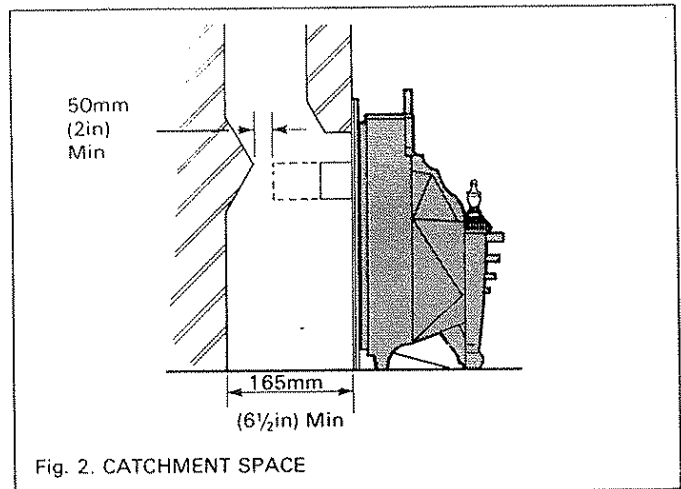

Fig. 2. CATCHMENT SPACE
- (g) The fire flue spigot and any spigot extension **must** pass through the closure plate by at least 25mm (1in) and have a minimum clearance of 50mm (2in) between its open end and the nearest obstruction. There must also be a minimum clearance of 165mm (6½in) between the back of the closure plate and the back of the catchment space (Fig. 2).